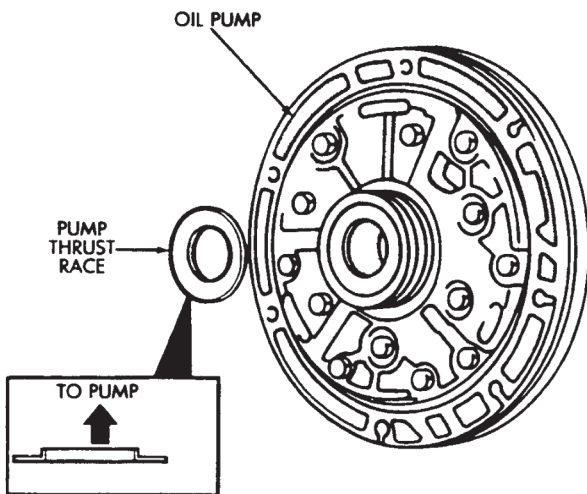
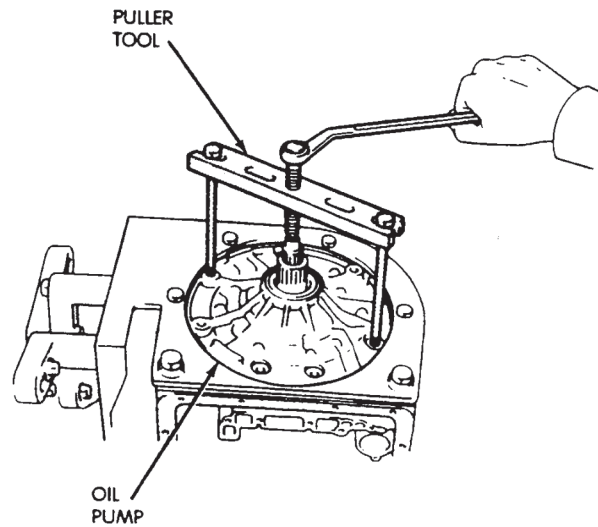

Fig. 53 Installing Oil Pump Thrust Race
Fig. 54 Installing Oil Pump
(65) Coat thrust bearing race with petroleum jelly and install it in oil pump (Fig. 53). Bearing race outer diameter is 47.2 mm (1.858 in); inside diameter is 28.1 mm (1.106 in).
(66) Lubricate and install replacement O-ring on oil pump body.
(67) Install oil pump in case. Align pump and case bolt holes and carefully ease pump into place (Fig. 54).